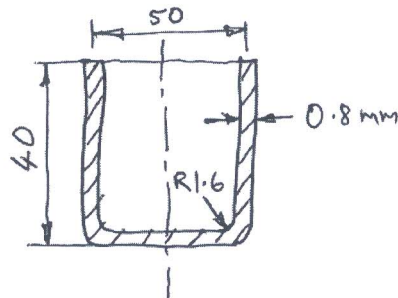

Fig.Q8(b)
- b. A symmetrical cup work piece shown in Fig. Q8(b) with a shell height of 40mm and a shell diameter of 50mm, is to be drawn. The corner radius at the bottom is 1.6mm. The work piece material is 1020 cold-rolled steel 0.8mm thick, with ultimate tensile strength 421 N/mm^2 , constant to cover friction is 0.7. determine the following :